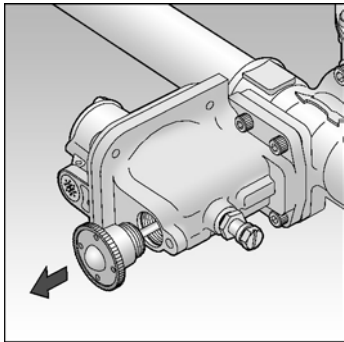

Fig. 4
4. If safety shut-off device is fitted unscrew reset spindle end cap and firmly pull. Hold in this position until the outlet pipework is fully pressurized, then release reset spindle end cap gently. See Fig. 4.
11. If safety device fitted, re-cock by unscrewing reset spindle end cap and pulling firmly. Hold in this position until the outlet pipework is fully pressurised, then release reset spindle end cap gently. Re-screw reset spindle end cap into body. See Fig. 4.